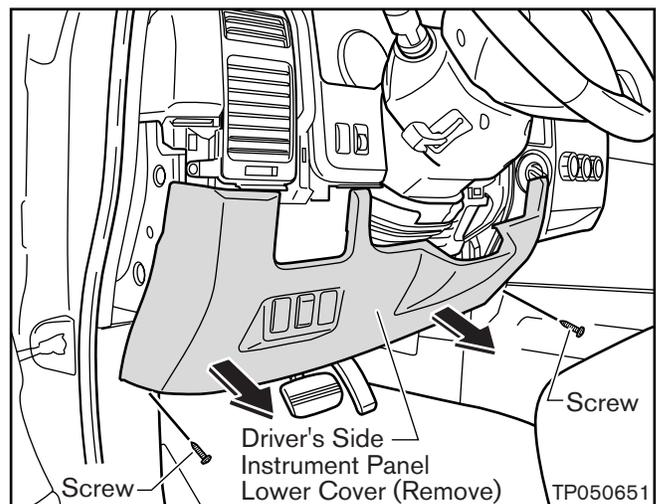

Figure 3
3. Remove the Driver's Side Instrument Panel Lower Cover (see Figure 3).